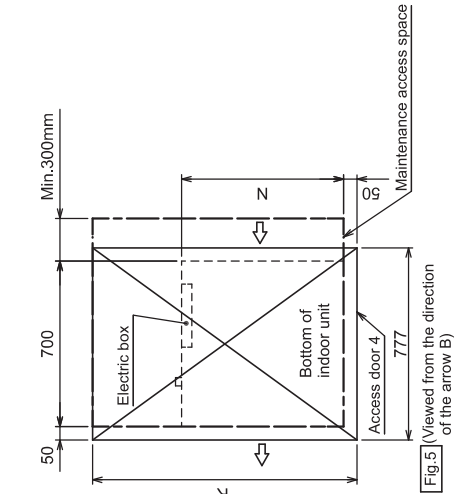

Fig.5 (Viewed from the direction of the arrow B)
- Create access door 4 below the electric box and the unit as shown in Fig.5.